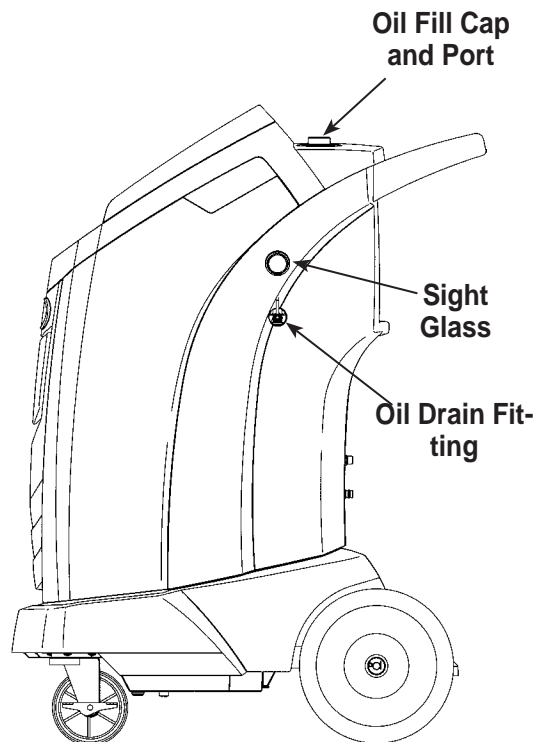

Figure 9
3. After the compressor stops, **slowly** open the oil fill cap to verify there is no pressure in the machine. Then carefully remove the cap. See Figure 9.